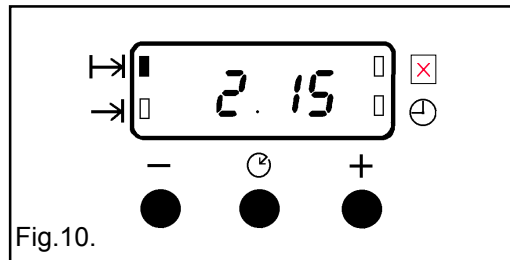

Fig.10.
- iii) To set the length of cooking time, press the Selector Control button until the 'Cook Time' (  ) indicator is illuminated. Press the increase control ( + ) until the required length of cooking time is displayed, e.g. 2 hrs 15 mins as Fig. 10. Depress the decrease control ( - ) if necessary.